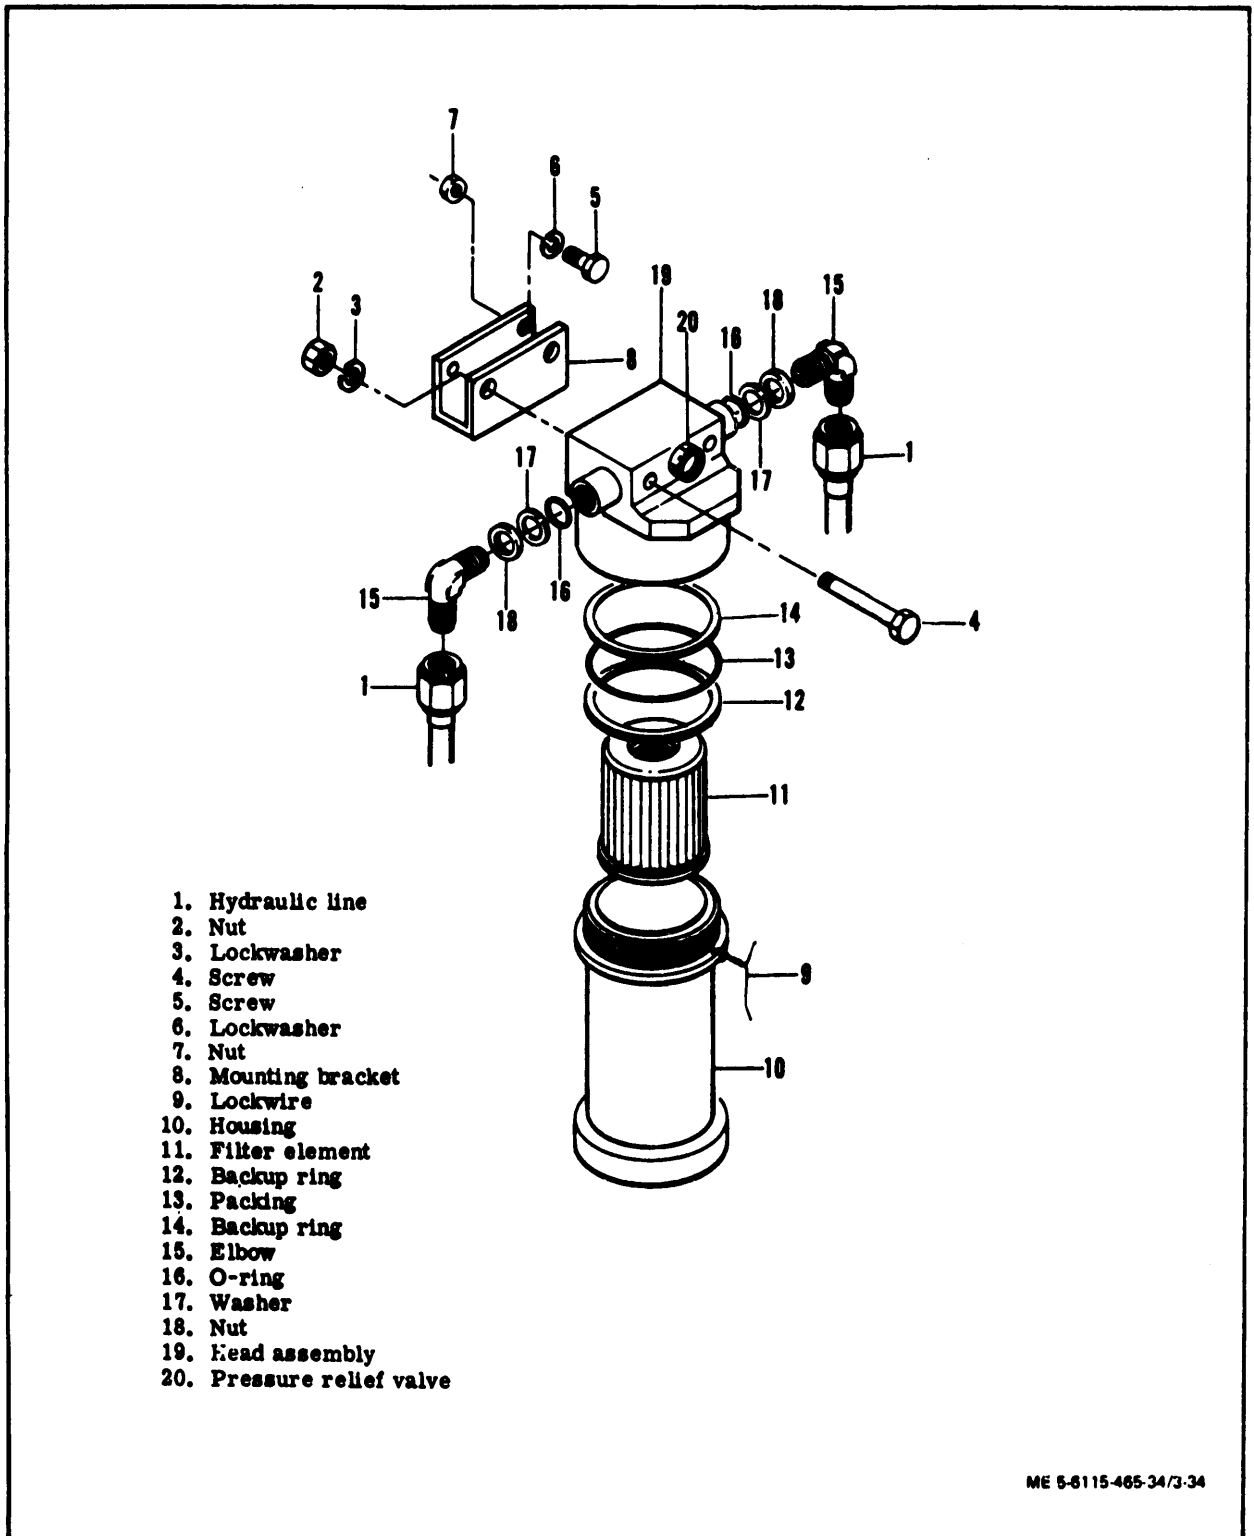

Figure 3-34. Hydraulic System Filter Assembly, Exploded View
(1) Disconnect hydraulic lines (1, figure 3-34) and drain hydraulic fluid into a suitable container.
(2) Remove nuts (2), lockwashers (3) and screws (4) to remove filter assembly.
(3) Do not remove screws (5), lockwashers (6), nuts (7) and mounting bracket (8) unless inspection reveals damage.